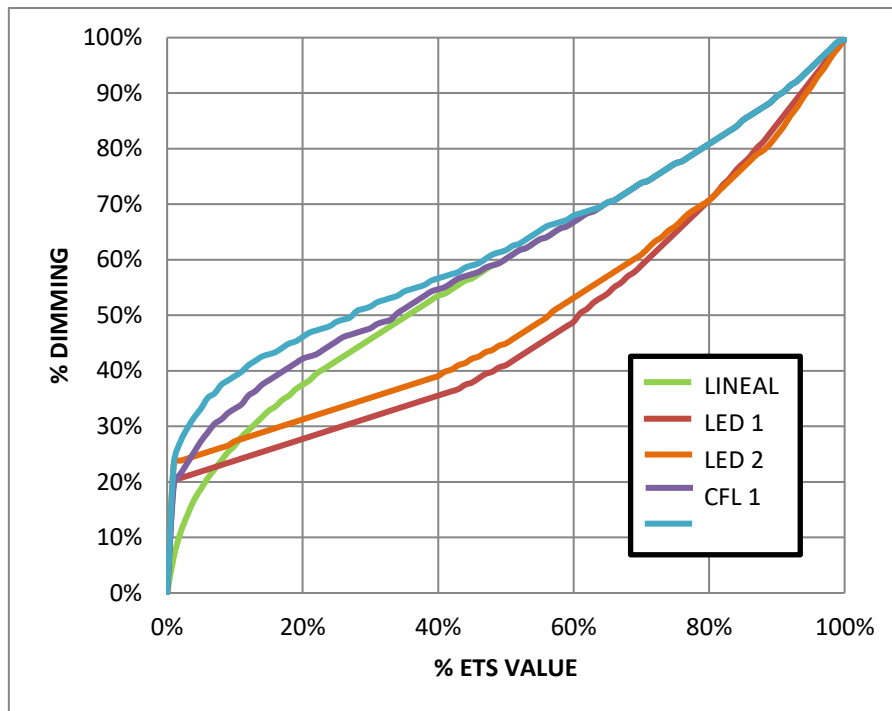

Figure 10 Dimming Patterns for LED and CFL loads.
- **Dimming Pattern**: [Linear / Curve 1 / Curve 2]. Figure 10 shows the different regulation curves for each load type.